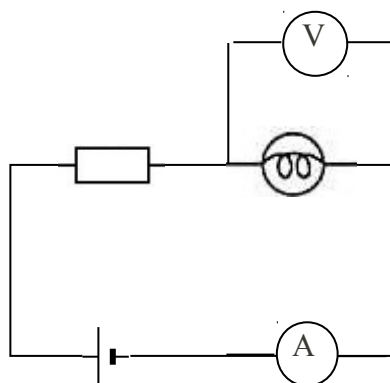

Figure IV-2.
Connect the battery box (6 V), the light bulb, and the largest resistor as illustrated in the circuit diagram of Figure IV-2. The current (I) and voltage (V) of the filament in the bulb may be measured by multimeters with correct dial setting and wiring.